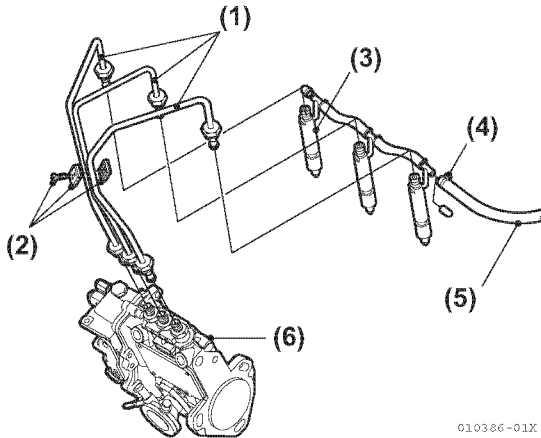
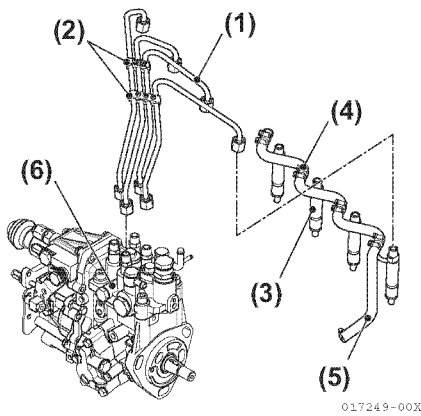
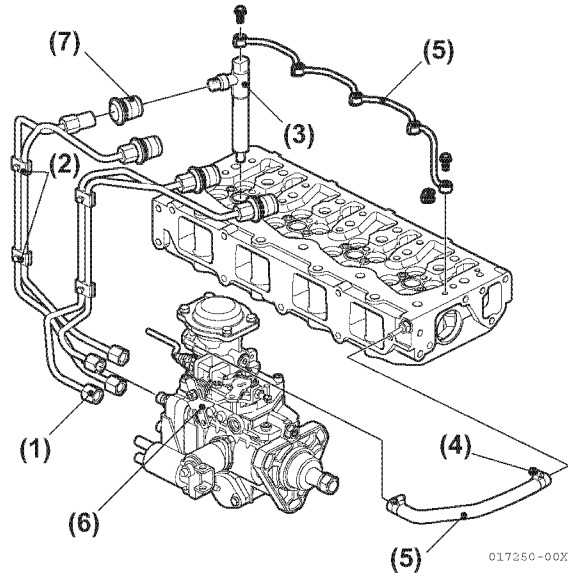

Figure 5-168
Figure 5-169
Figure 5-170
43. Mount the fuel return line (Figure 5-168), (Figure 5-169) and (Figure 5-170).